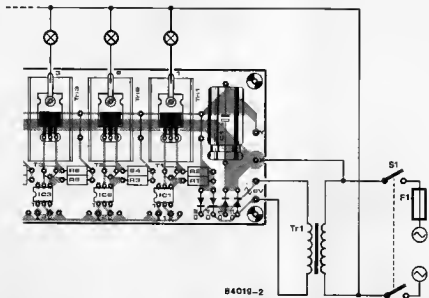
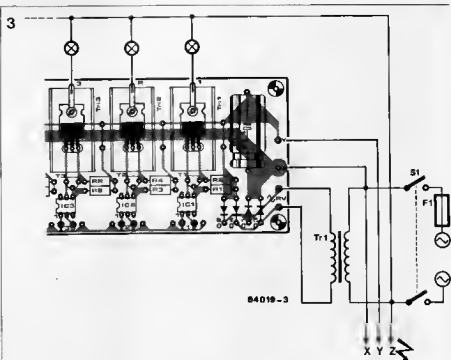

Figure 2. In general, the mains wiring of a single triac control board should follow that shown here.
Figure 3. If a single triac control board is used in conjunction with the Programmable Disco Light Display, the mains wiring should be as shown here.
Relating this to the circuit diagram of figure 2, we see that the terminals a and b are connected across the c.b. points. Every time the points open this information is transmitted via the filter network to T1 so this transistor conducts for a short time. This provides a signal that is fed to one of the inputs of the schmitt trigger N1. The output of N1 generates one pulse corresponding to each opening of the c.b. points and this output is fed to the trigger inputs of MMV1 (TR) and MMV2 (TR). What happens next depends on the time, t , between two successive pulses.
Figure 2. The circuit as shown here uses freely available common components. It takes its power from a fused 12 V line in the car and senses the engine speed from the signal from the c.b. points.
The triac control board can be used for many applications and, in general, the wiring should follow that given in figure 2. If the triac control board is to be used with that of the Elektor Programmable Disco Light Display, the wiring should be as illustrated in figure 3 for a single triac control board or figure 4 for two boards. Three or more boards are connected in the same way.